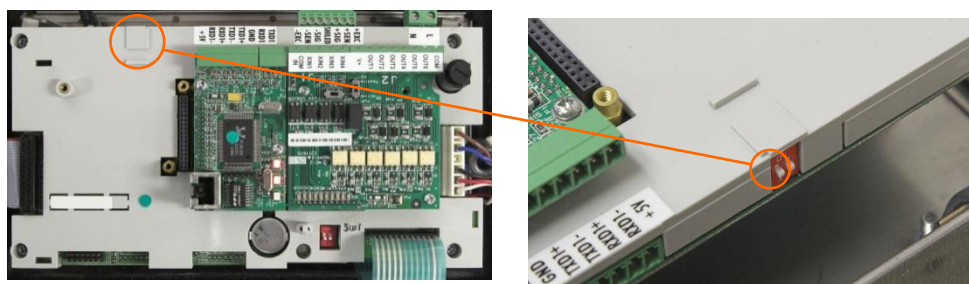

Figure 5-33: Location of Switch SW2-1
- If a reset of calibration data is also required, set SW2-1 to ON. The position of SW2-1 (indicated in Figure 5-33) determines whether metrologically significant EEPROM (scale, calibration) data is reset when a master reset is performed. If SW2-1 is set to OFF, EEPROM data will **not** be affected by the master reset.